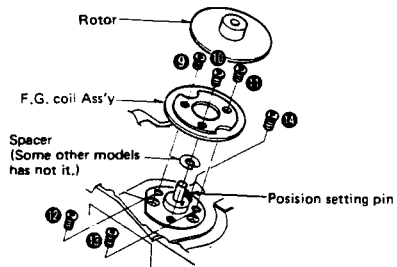

Fig. 18
10. Remove the 3 screws (⑨ , ⑩ , ⑪) and remove the F.G. coil Ass'y (Fig. 18).
11. Remove the 3 screws (⑫ , ⑬ , ⑭) securing the cylinder (Fig. 18).